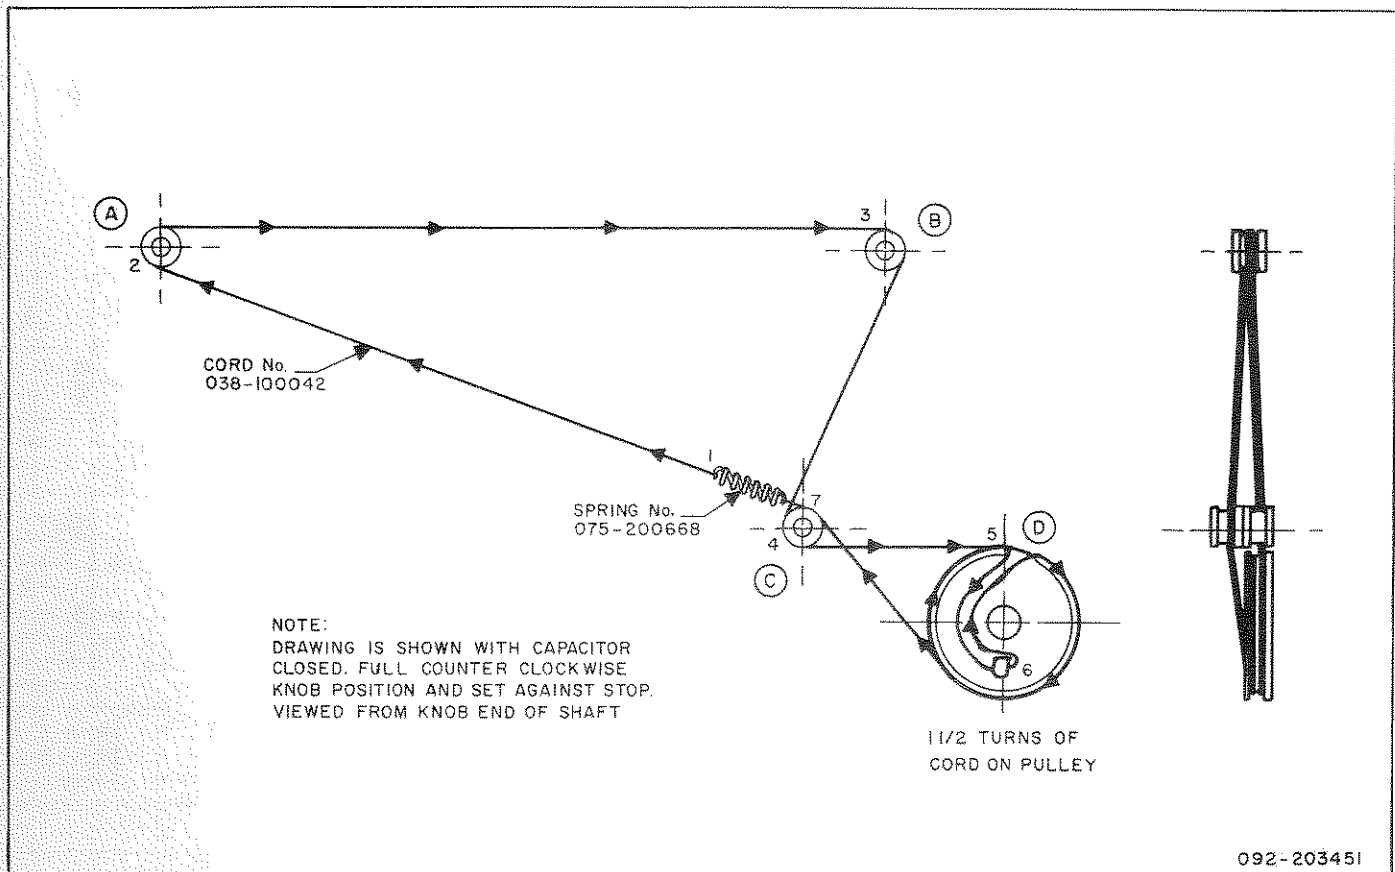

Figure 8. Dial Scale Stringing Diagram.
- D. Re-string the dial cord as follows (Figure 8):
1. Attach the end of the cord to the spring (1) and proceed under and around wheel A (2). Proceed clockwise around wheel B (3) down behind wheel C (4).
2. Continue down through the wheel slot of wheel D (5). Proceed under the tab (6) up and out of the wheel slot.
3. Complete 1-1/2 turns of cord on wheel D and proceed up and around wheel C (7).